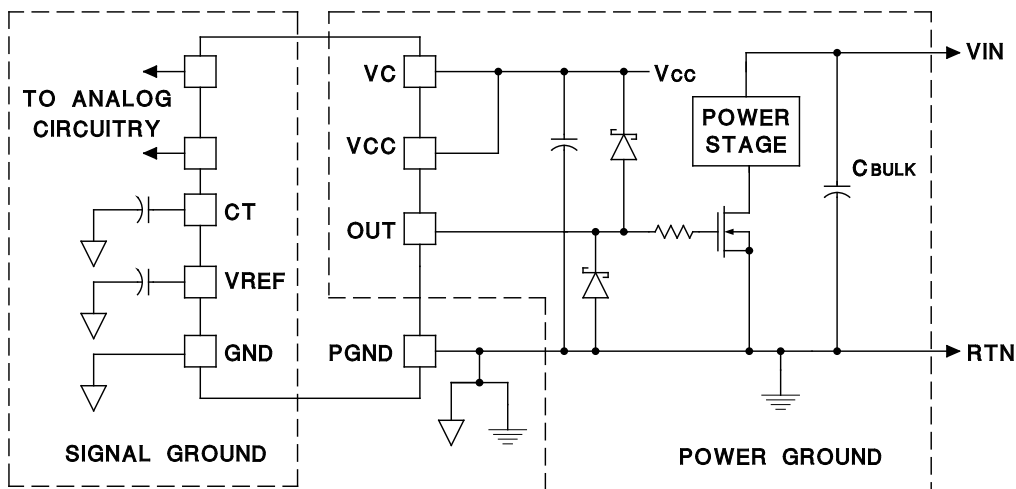

Figure 7-10. Ground Planes Diagram
Each totem pole output of the UC3823A and UC3823AB, UC3825A, and UC3825B can deliver a 2-A peak current into a capacitive load. The output can slew a 1000-pF capacitor by 15 V in approximately 20 ns. Separate collector supply (VC) and power ground (PGND) pins help decouple the device's analog circuitry from the high-power gate drive noise. The use of 3-A Schottky diodes (1N5120, USD245, or equivalent) as shown in the Figure 7-10 from each output to both VC and PGND are recommended. The diodes clamp the output swing to the supply rails, necessary with any type of inductive/capacitive load, typical of a MOSFET gate. Schottky diodes must be used because a low forward voltage drop is required. DO NOT USE standard silicon diodes.